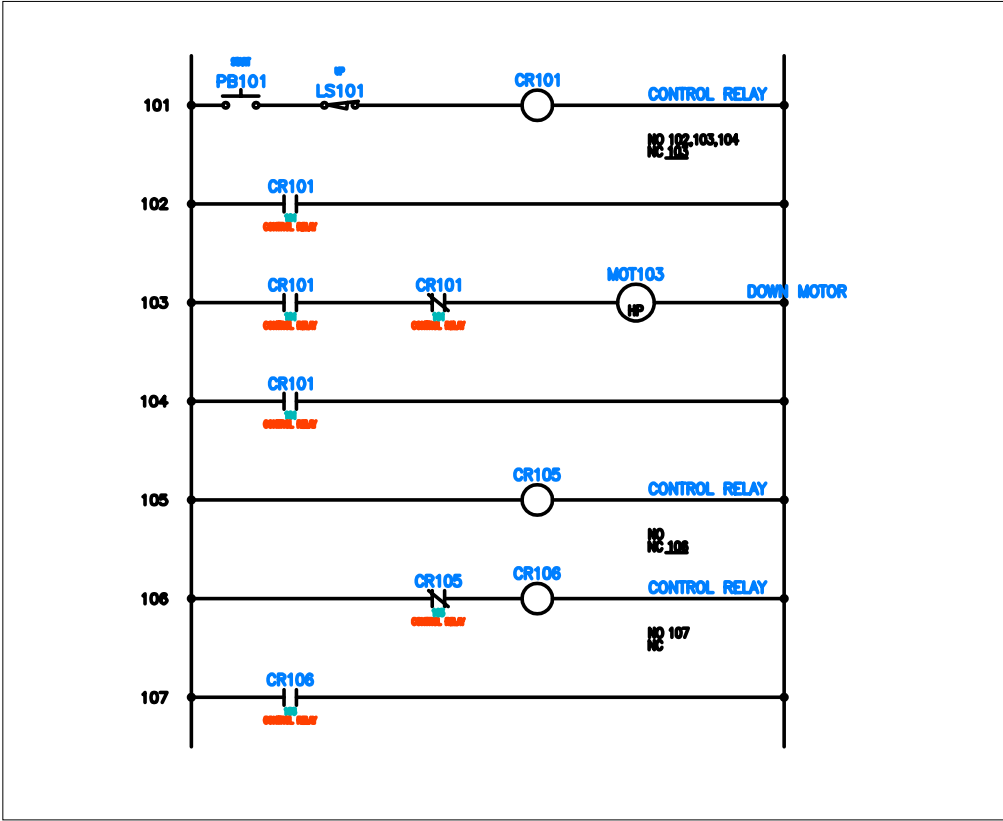

Figure 6-56 Components inserted in the drawing
4. After entering description and other information in the **Insert / Edit Component** or **Insert / Edit Child Component** dialog box, choose the **OK** button; the components are inserted in the drawing, as shown in Figure 6-56.